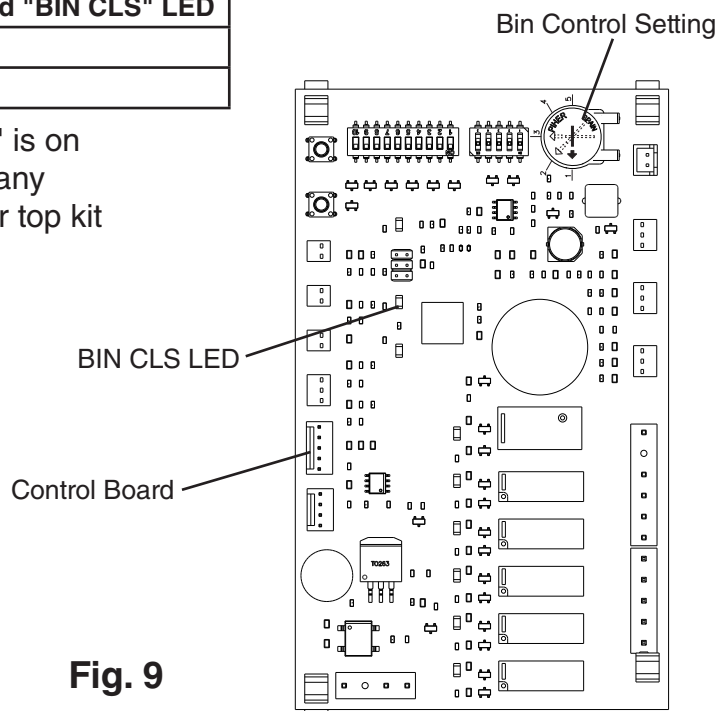

Fig. 9
- 4) Confirm the control board "BIN CLS" LED is off (bin empty). See Fig. 9.